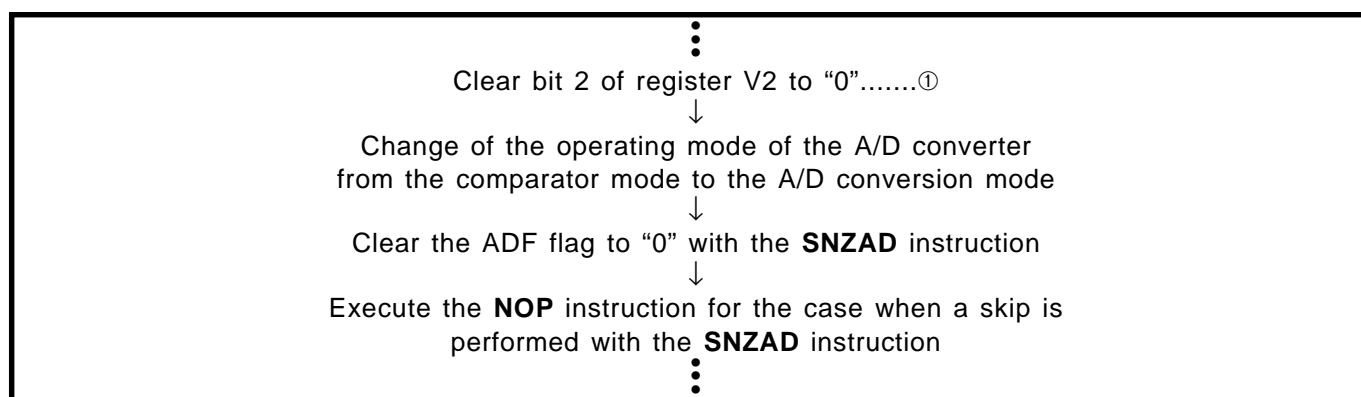

Fig. 2.4.5 A/D converter operating mode program example
- Clear bit 2 of register V2 to "0" to change the operating mode of the A/D converter from the comparator mode to the A/D conversion mode with bit 3 of register Q1 (refer to Figure 2.4.5①).